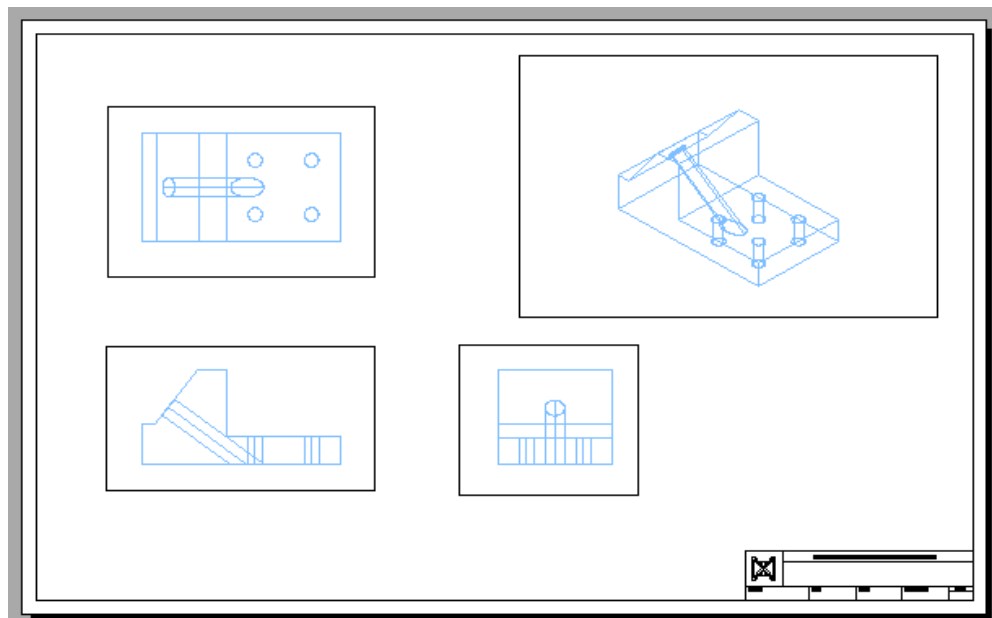

Figure Step 11
Step 11 Using what you learned in AutoCAD 2D, use the MVIEW command to create a view in the top right corner of the drawing. Change the scale of the view to 1 and the orientation to SE Isometric. Pan the view to center it. See Figure Step 11.